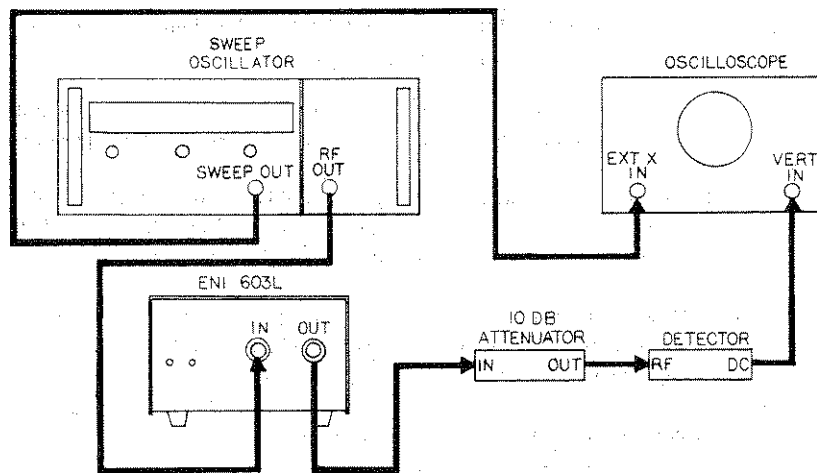

Figure 4.1 Gain Measurement
Connect the equipment as shown in Figure 4.1, then proceed as follows:
- (g) Reconnect the 603L into the test set-up of Figure 4.1.